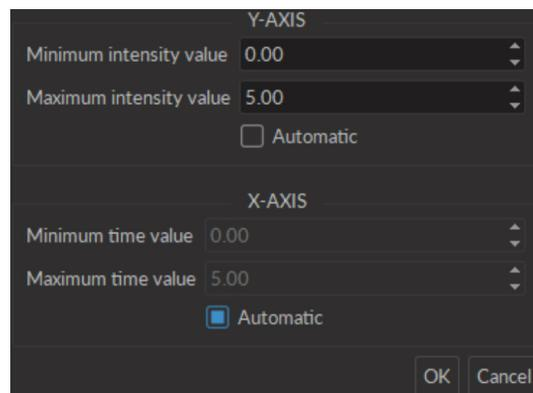

Figure 3.30: Set Zoom Window
- The **Set Zoom** button opens the **Zoom window** (Fig. 3.30). The minimum and maximum values of each axis can be defined. The **Automatic** checkbox chooses axis values to fully display the entire data set.